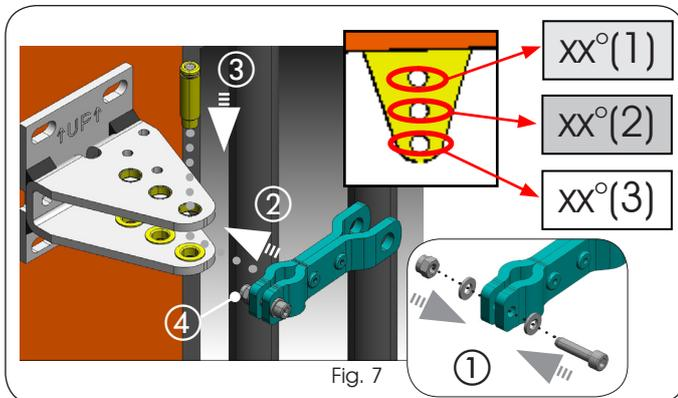

Fig. 7
2. Pre-assemble the fork (Fig. 7 ref. ①) without tightening the nut. After choosing the hole on the rear bracket (see Table 1, white or grey boxes), install the fork (Fig. 7 ref. ②). Secure in place by inserting the special pin supplied (Fig. 7 ref. ③), then tighten the nut (Fig. 7 ref. ④).